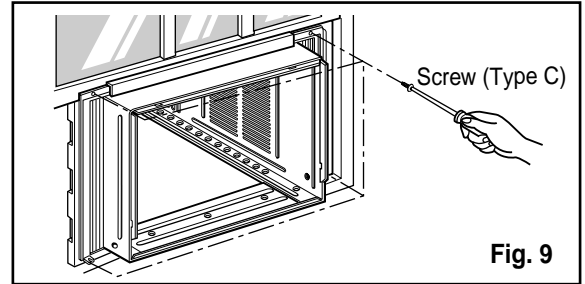

Fig. 9
6. Attach each Frame curtain the window sash by using screws (Type C.) (See Fig. 9)